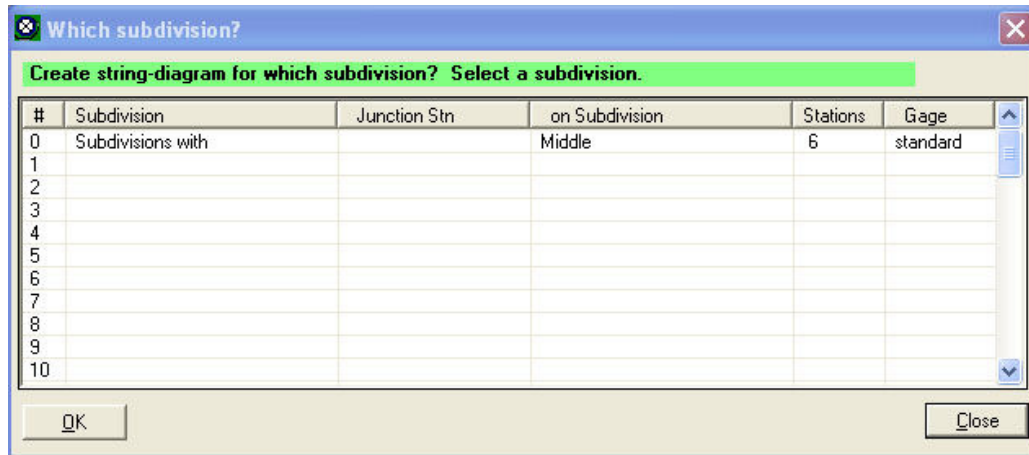

Figure 12-12
1. On the ProTrak Standard toolbar click on "Scheduling" then select "Create string diagram" from the dropdown list. A window like the one shown in Figure 12-12 will appear.